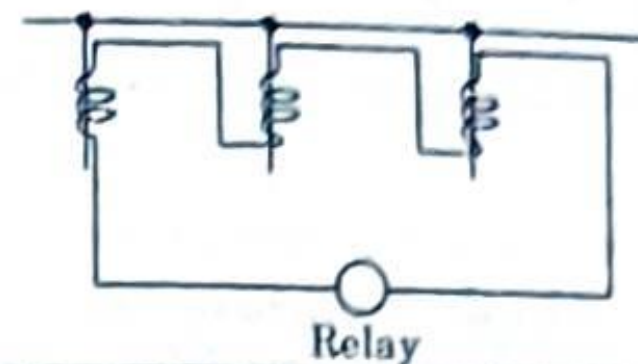

Fig. 3.13.4. Linear coupler scheme.
- In case of linear couplers, secondary voltage is proportional to the primary current and the secondary windings of all coupler on the same bus section are connected in series to the relay as shown in the Fig. 3.13.4.